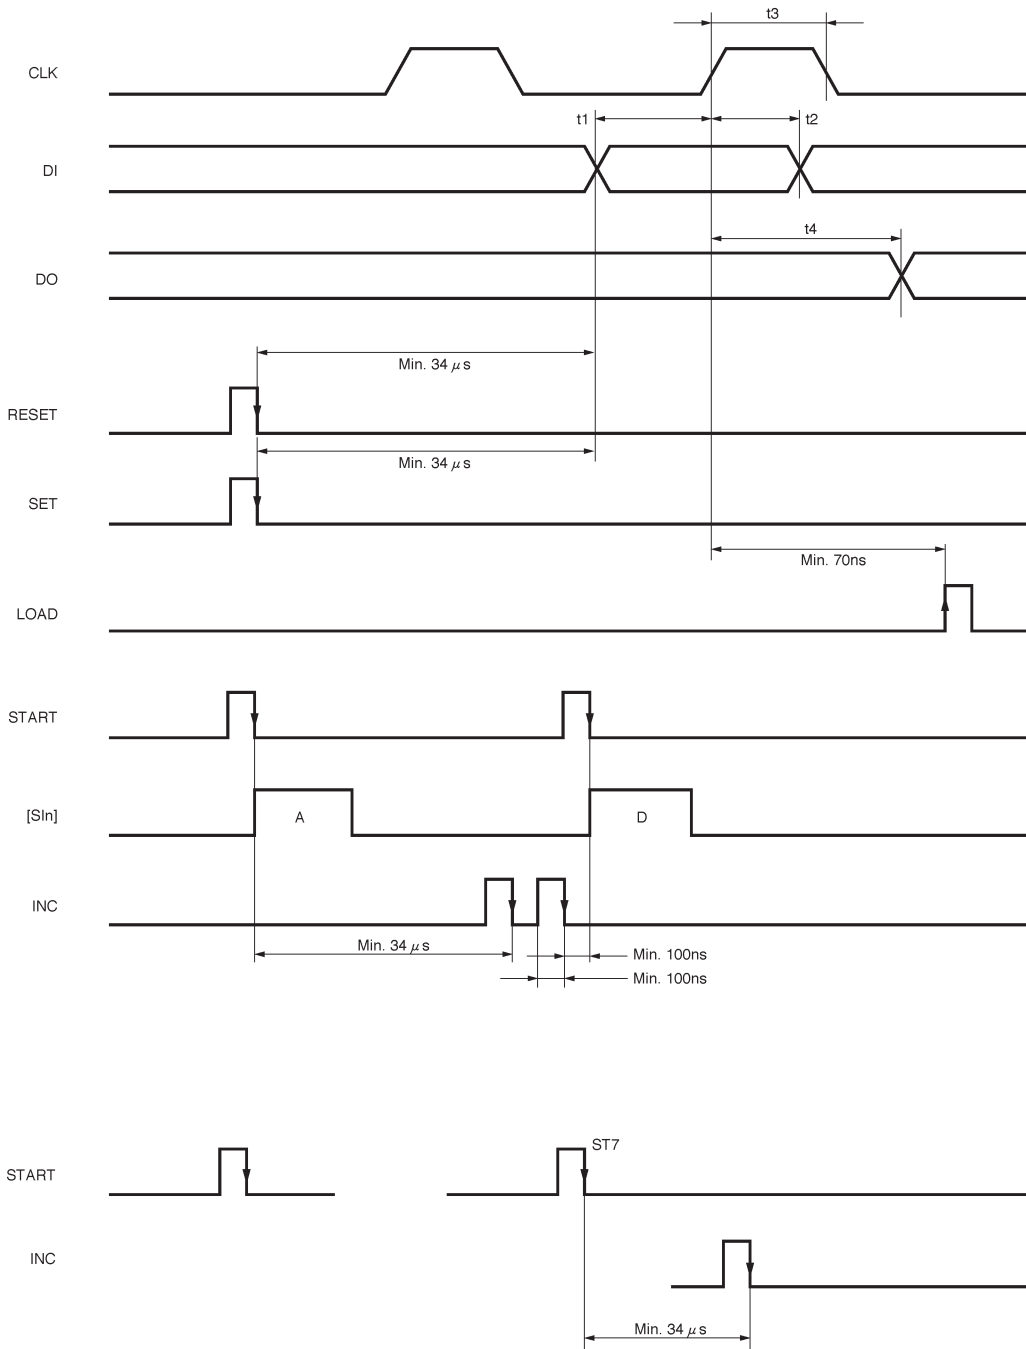

Fig. 2
- INC** :Supports the increment function from level 1 to level 6. One level is incremented for one pulse. (See Fig. 2)
- RESET** :Sets all data at “LOW”. Clears data when printing is resumed after a pause. (See Fig. 2)
For two-part split printing, enter INC after 34 μ seconds of START7. (See Fig. 2)